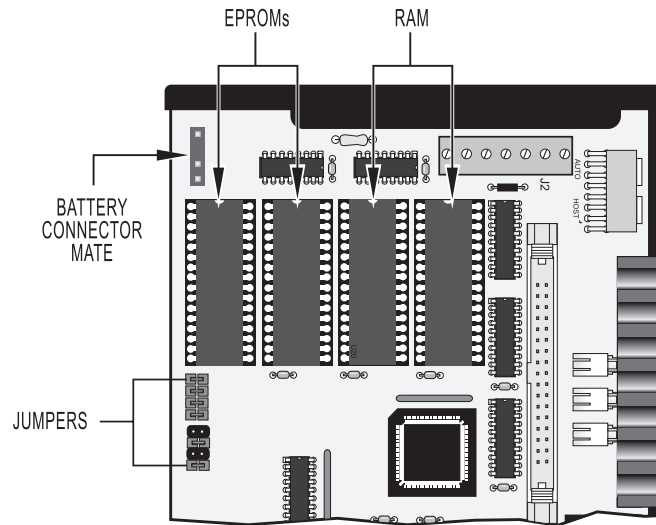

Figure 3-11: Location of EPROMS and RAM
4. Refer to the Figure 3-11 to locate the RAM and EPROM chips.